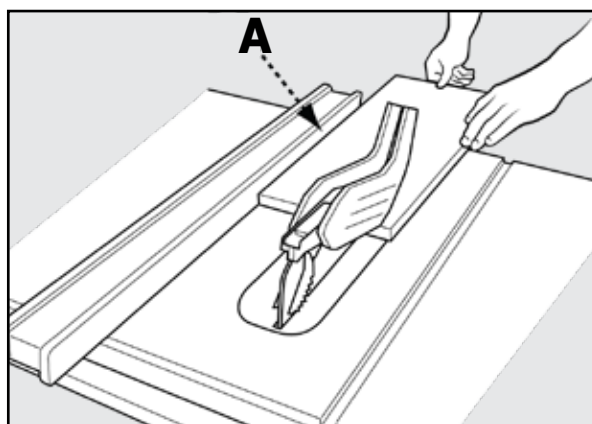

FIGURE 27
8. Hold the workpiece flat on the table and against the fence (A). The workpiece must have a straight edge against the fence and must not be warped, twisted or bowed. See proper hand position in Figure 27.